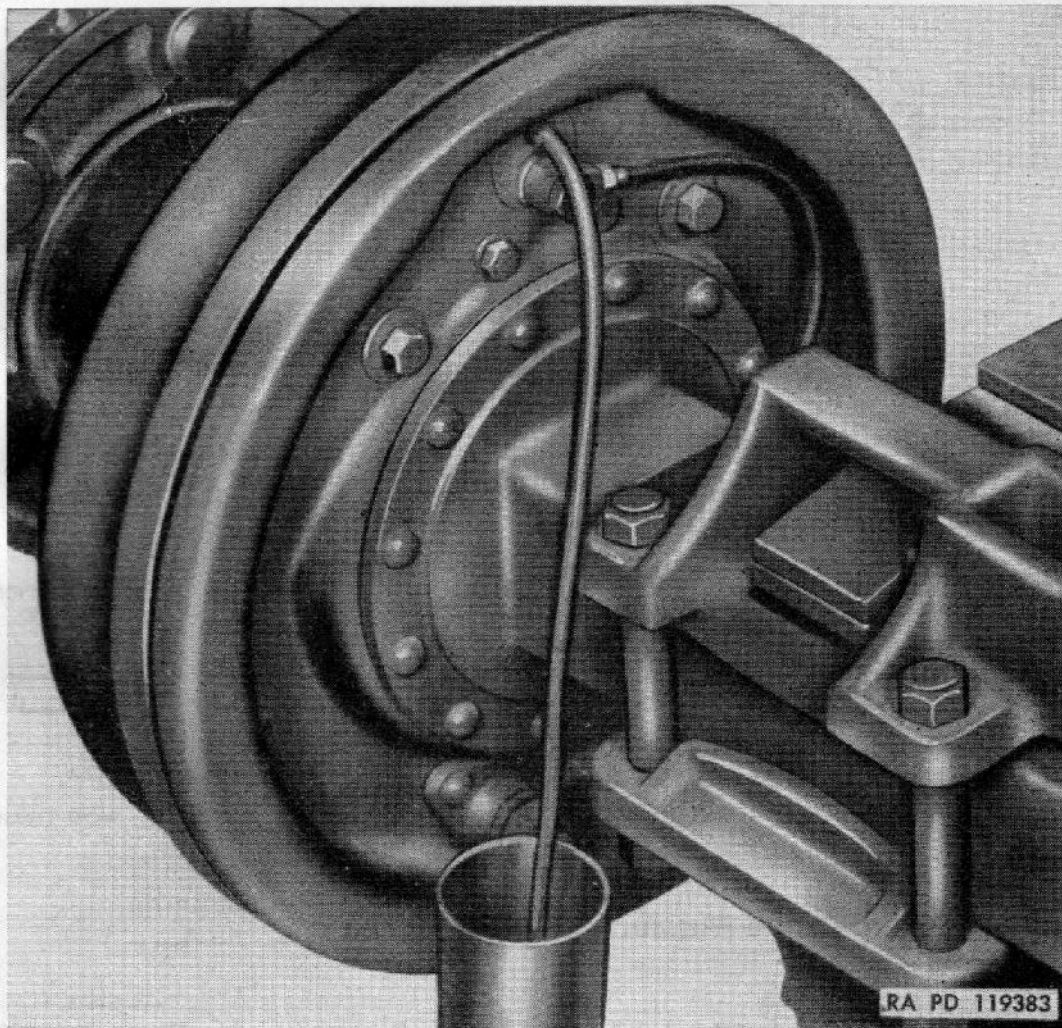
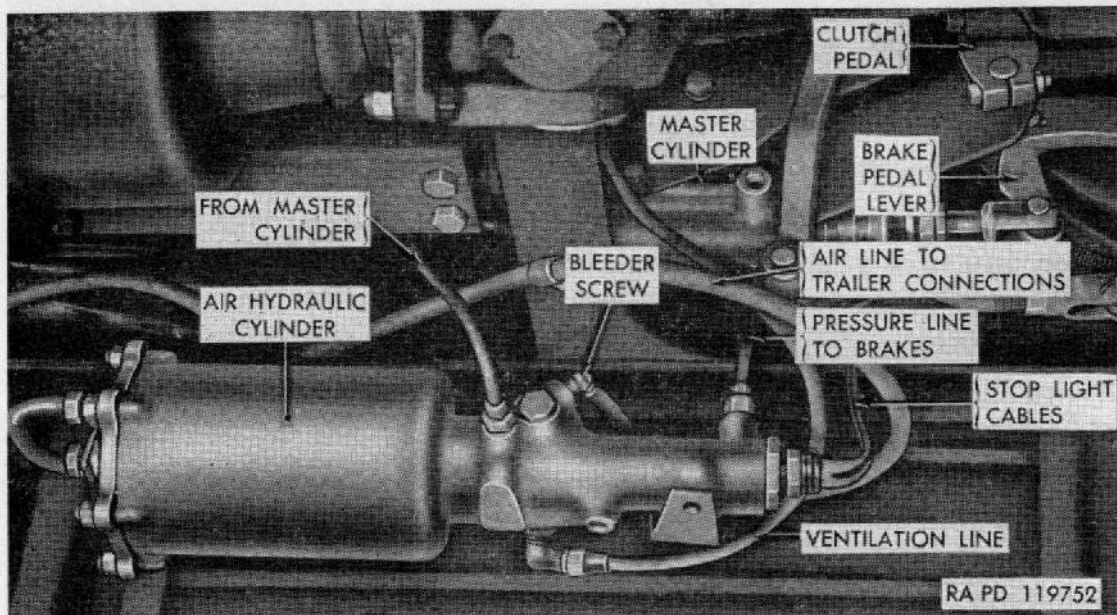

Figure 101. Bleeding wheel cylinder.
Figure 104. Air-hydraulic cylinder—installed view.
c. AIR-HYDRAULIC CYLINDER. The air-hydraulic cylinder (fig. 104) embodies an air cylinder and a hydraulic cylinder in tandem, each fitted with a piston with a common piston rod between. The air piston is of greater diameter than the hydraulic piston. This difference in areas of the two pistons gives a resultant hydraulic pressure much greater than the air pressure admitted to air cylinder. Automatic valves, actuated by fluid pressure from master cylinder, control the air admitted to air cylinder. Thus the fluid pressure in brake lines is always in a direct ratio to foot pressure on brake pedal. An air line from air-hydraulic cylinder leads to a trailer coupling (fig. 147) at rear of truck.
- (1) If pressure tank is used, connect tank hose with proper size adapter to the master-cylinder-filler-cap aperture. The pressure tank should contain between 10 to 20 psi air pressure and sufficient fluid to maintain constant fluid level in master cylinder.
- (2) The air-hydraulic cylinder must be bled before bleeding wheel cylinders. Clean bleeder screw at air-hydraulic cylinder (fig. 104) and wheel cylinders (fig. 101). Attach bleeder hose to air-hydraulic cylinder bleeder screw, and place other end in a glass jar or bottle so that the end is submerged in hydraulic brake fluid. While pumping brake
(fig. 104)
- (1) Open compressed-air-reservoir drain cocks. Remove two bolts securing metal shield at lower side of cylinder and remove shield. Figure 104 shows cylinder as installed with shield removed.
- (2) Disconnect master-cylinder-to-air-hydraulic-cylinder hydraulic line, brake line from air-hydraulic cylinder, ventilation line, air-reservoir-to-air-hydraulic-cylinder air line, and trailer-connection-to-air-hydraulic-cylinder air line.
- (3) Disconnect stop-light-switch connection.